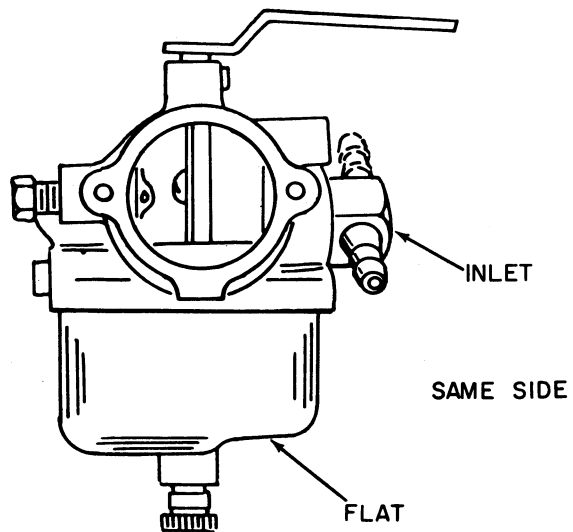

Figure 7
9. With the carburetor body inverted, install the large O-ring which seals the fuel bowl and body. Inspect the O-ring again, for a defective O-ring will result in considerable leakage. Moisten the O-ring with a little water, or oil, to help in positioning the fuel bowl on the body. The correct position of the bowl is with the flat side toward the fuel inlet fitting. Refer to Figure 7.